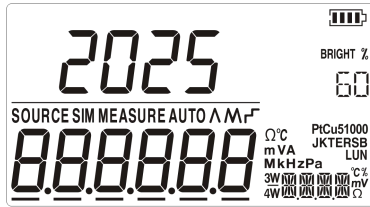

Figure 2.3-1
1. Press and simultaneously until “BRIGHT” is displayed as shown in Figure 2.3-1.